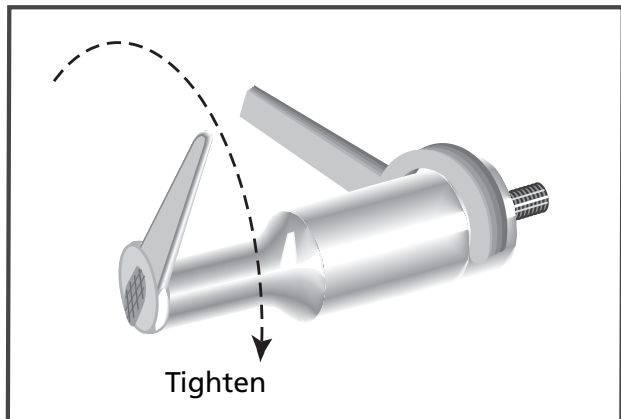

Figure 6-12 Replaceable Tip Installation
3. Thread the tip into the horn and tighten to the torque specifications below using an open end wrench of the correct size to fit the wrench flats of the tip. This is illustrated in Figure 6-12. If necessary, use a spanner wrench (on horns with spanner wrench holes) or an open end wrench (on horns with wrench flats) to keep the horn from turning in your hand. A canvas strap wrench is permissible if it does not gouge or scratch the horn.